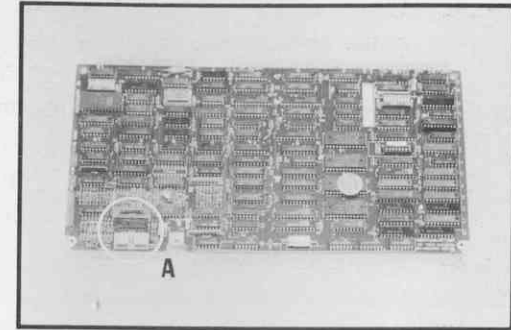

Figure 57 10mbit Ethernet Board
- 4.37** Check to see whether you have a 10mbit Ethernet board. This board has a single blue connector as shown in Figure 57.